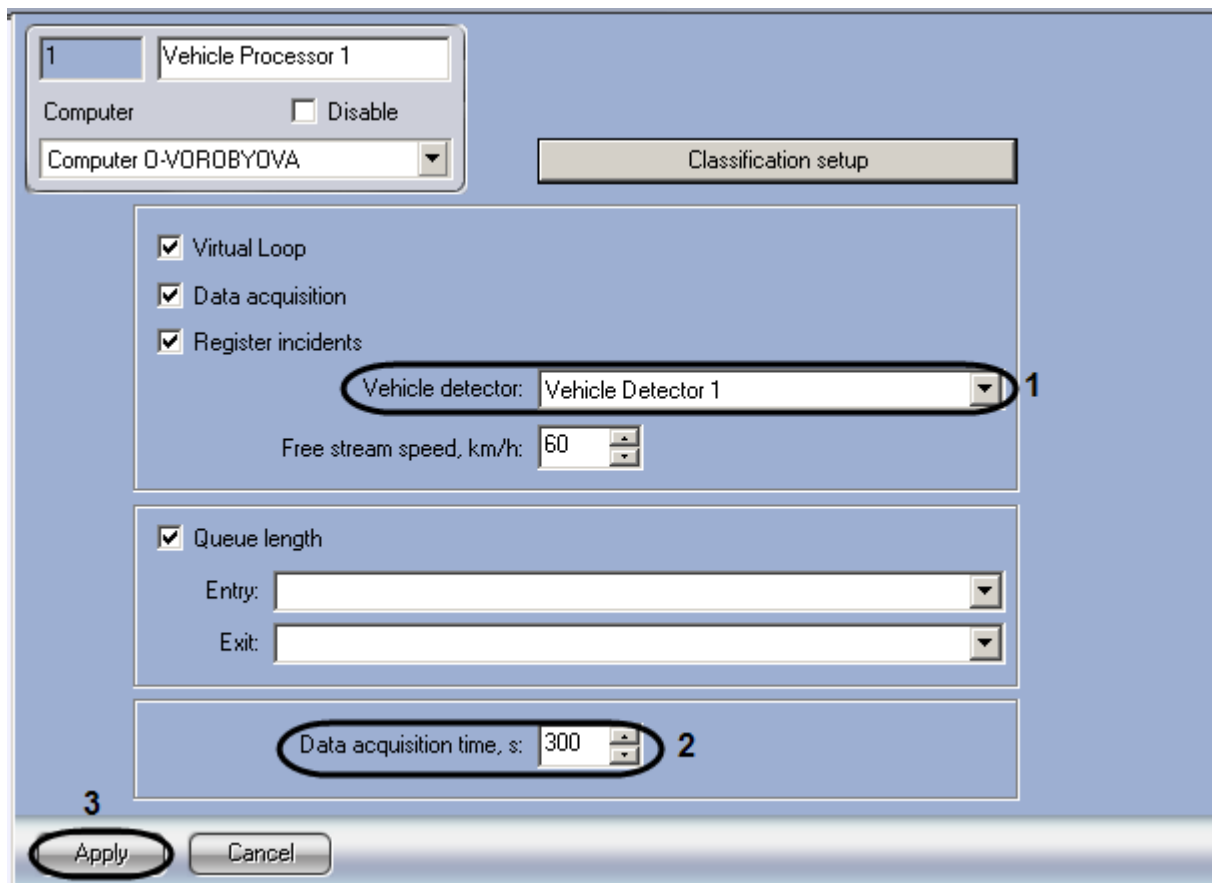

Fig. 7.7—9 Setting up the Vehicle processor and Vehicle detector modules interaction
1. Go to the object Vehicle's processor settings panel (Fig. 7.7—9)
2. From the «Vehicle detector» dropdown list select the name of a single named object, corresponding to the required program module (Fig. 7.7—9, 1)
3. In the «Data acquisition time, sec» field enter the time period, during which the Vehicle processor receives messages from the Vehicle detector and makes the averaging of traffic characteristics (Fig. 7.7—9, 2). Upon the expiry of this period the data is stored to the Vehicle processor database.